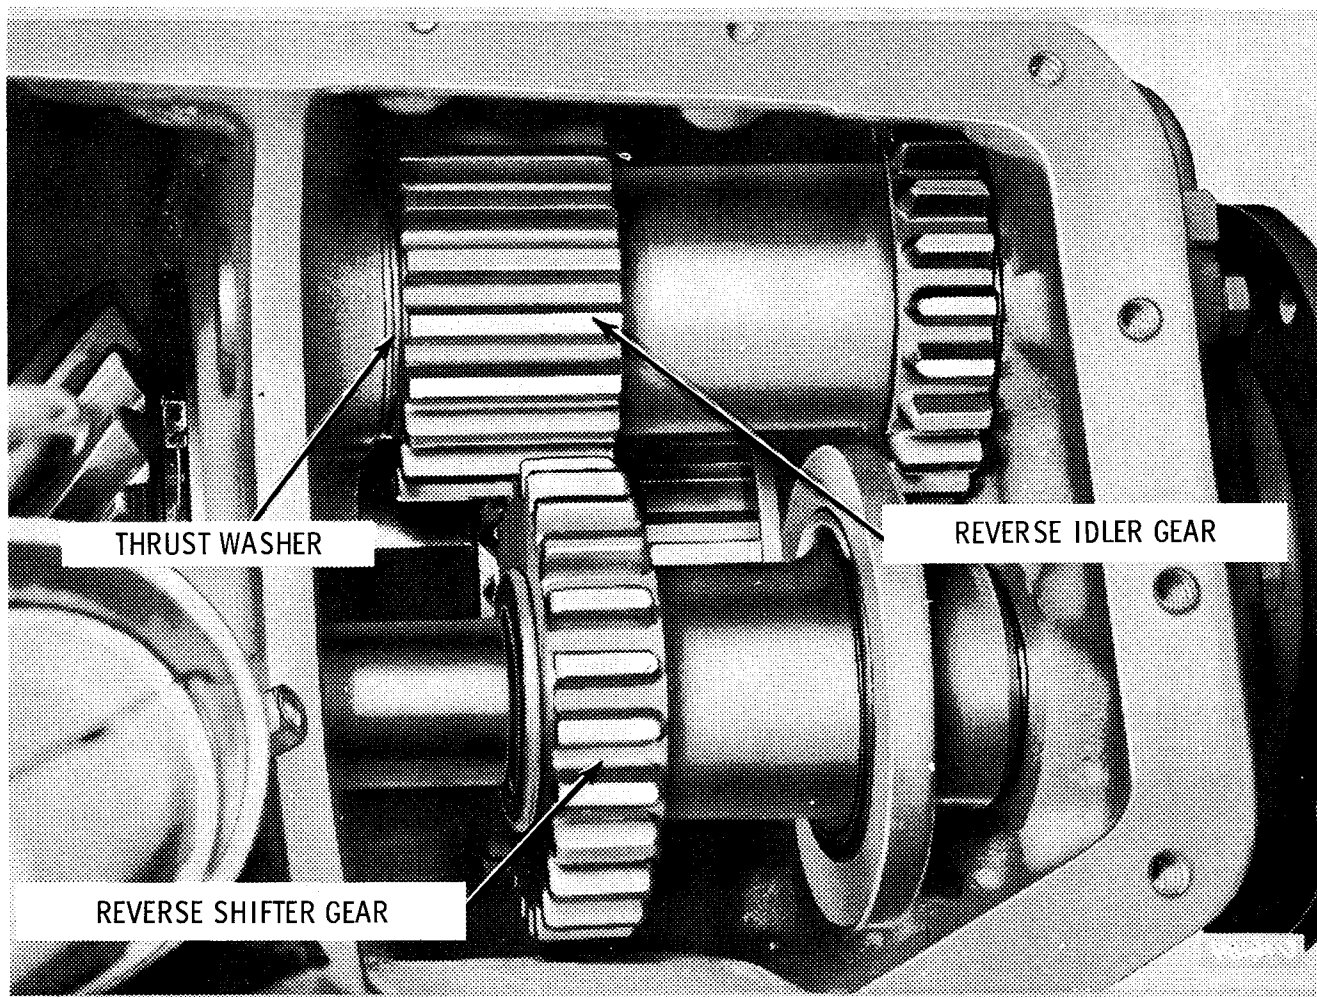

Fig. 7-8. Reverse gears installed
(20) With a soft drift and hammer, drive the reverse shifter gear shaft into the main housing, lining up the retainer bolt hole on the end of the shaft with the retainer bolt hole in the main housing. Drive the shaft in until the outer end is flush with the machined surface of the main housing.
(21) Install the retainer (fig. 5-37), and three 5/16-18 x 3/4 inch bolts and lockwashers. Tighten the bolts to 13 to 16 pound feet torque (fig. 7-8).